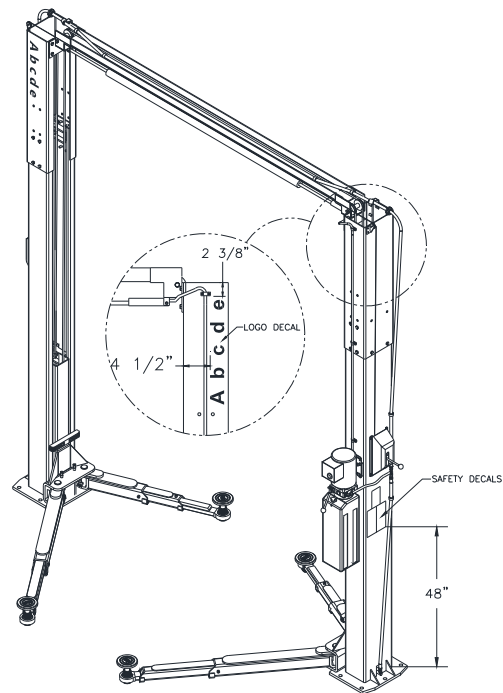

Fig. 11 – Safety & Logo Decal Placement
44) Apply the Safety Decals (Pg. 3) 48" above the base plate on the power column and the Logo Decal 48" above the base plate on the idler column. **Fig. 11.**